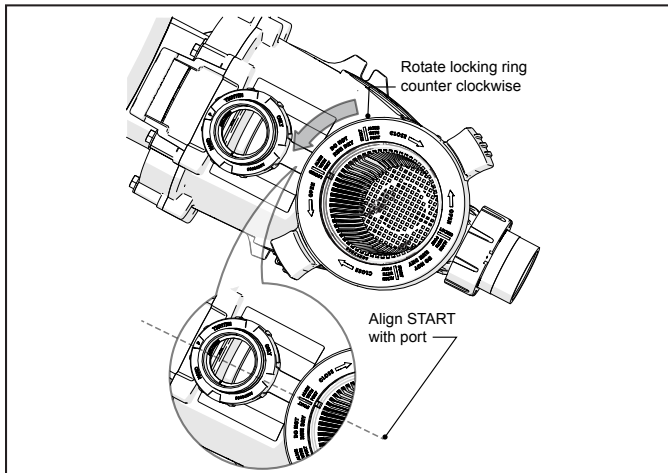

Figure 16. Disengage Lock Ring
4. Following the markings on the locking ring, turn the ring counter-clockwise until the ‘START’ markings align with the ports. See Figures 16.